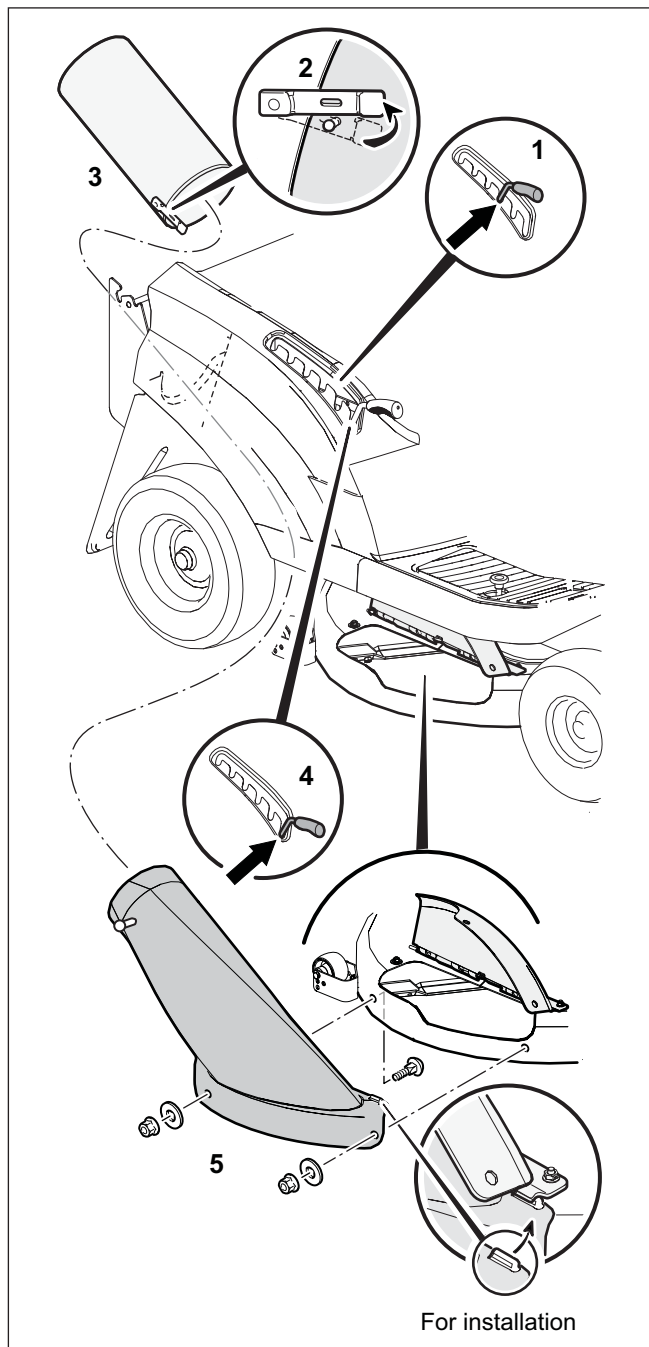

Figure 10
1. Follow the steps shown in **Figure 10** to remove the rear discharge chute and chute extension.